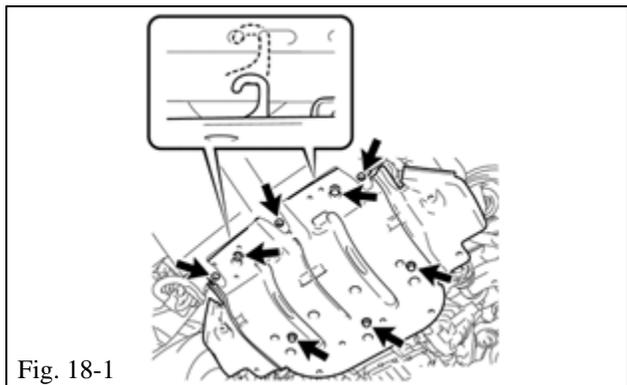

Fig. 18-1
- (a) Install the engine undercover to the vehicle by tightening the five bolts (Fig. 18-1).
- (b) Install the front bumper cover to the engine undercover by tightening the three screws (Fig. 18-1).